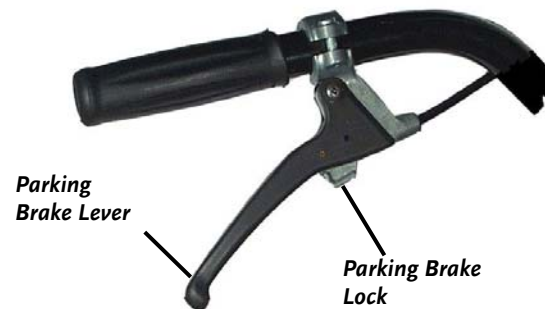

Figure 4
5. Set the Parking Brake by squeezing the Brake Lever (**Figure 4**) on the right Handlebar and lift up on the Parking Brake Lock (**Figure 4**), locking the Lever in place. To release the Parking Brake, just squeeze the Parking Brake Lever again.
2. Set the Parking Brake by squeezing the Parking Brake Lever on the right Handlebar and lifting the Parking Brake Lock (*Figure 4* on page 12).